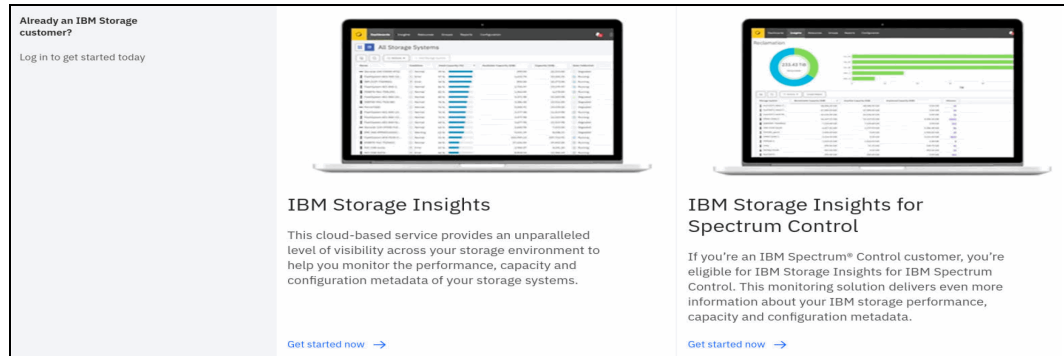

Figure 9-23 IBM Storage Insights or IBM Storage Insights for IBM Spectrum Control registration options
1. Figure 9-23 on page 575 shows the registration options. Select whether you want to register for IBM Storage Insights or IBM Storage Insights for IBM Spectrum Control. For more information about the differences of the IBM Storage Insights software, see "" on page 571.